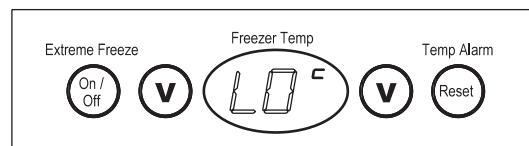
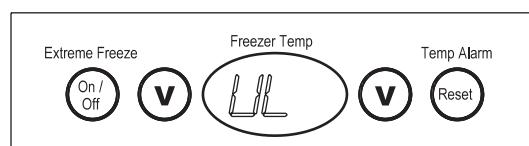

Figure 5
Figure 6
Press and hold the ALARM RESET key until the control panel beeps to activate or deactivate the Display Lockout feature which prevents the user from accidentally changing the temperature and extreme freeze settings. "L0°C" (LOCK) will be displayed for three (3) seconds indicating that the control panel is locked (see figure 5). Once in lockout when a key is pressed, "L0°C" will display for three (3) seconds. When the lockout is deactivated, "UL" (UNLOCK) will display for 1 second (see figure 6).